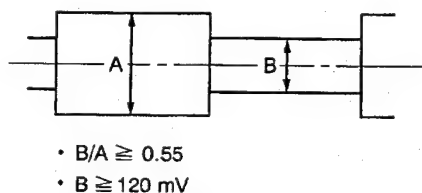

Fig. 2-1-86 Envelope output and output difference
2. In playback the tape (with a E-180), the video envelope should meet the specification as shown in Fig. 2-1-86.